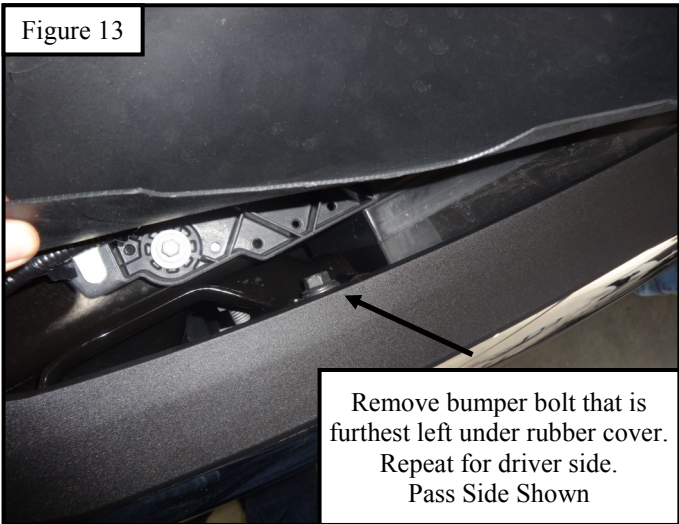
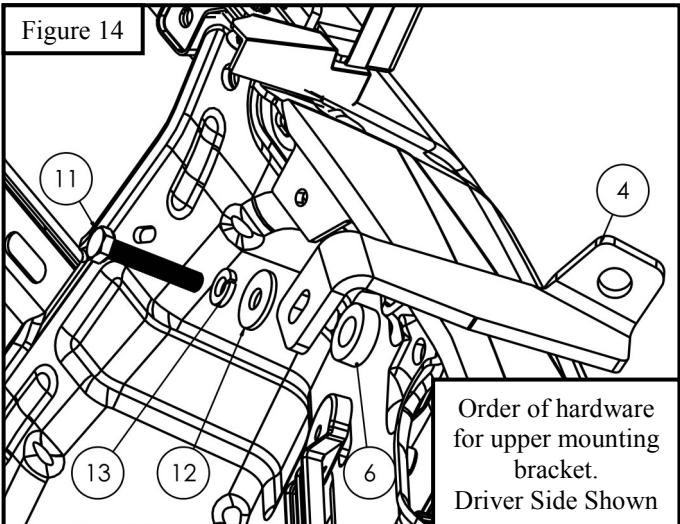

Figure 13
Figure 14
8. Remove factory bumper bolt see Figure 13. Install upper mounting bracket using supplied M8 hardware, tighten to 15 ft-lbs. See Figure 14.